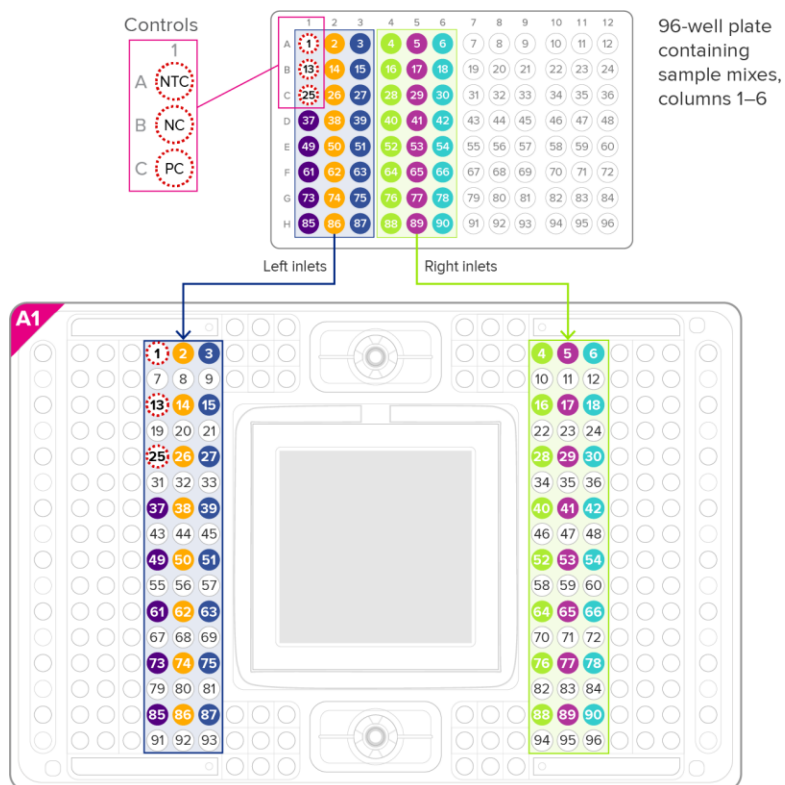
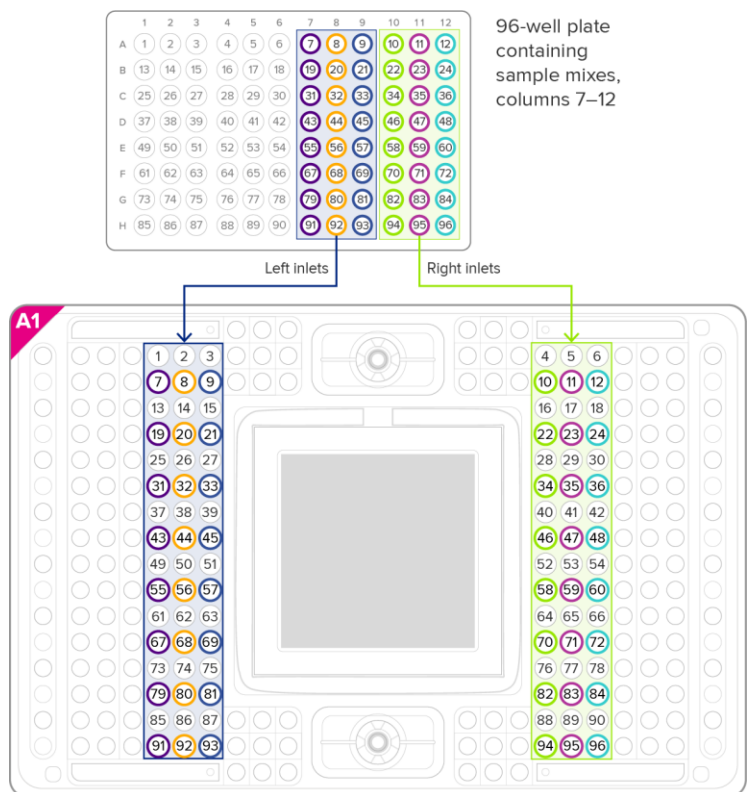

Figure 10. Sample mix pipetting map for sample plate columns 1–6
Figure 11. Sample mix pipetting map for sample plate columns 7–12
- 6** Use an 8-channel pipette to transfer the entire volume (16–18 μL) of each sample mix into the sample inlets, as shown in Figure 10 and Figure 11 on page 26.